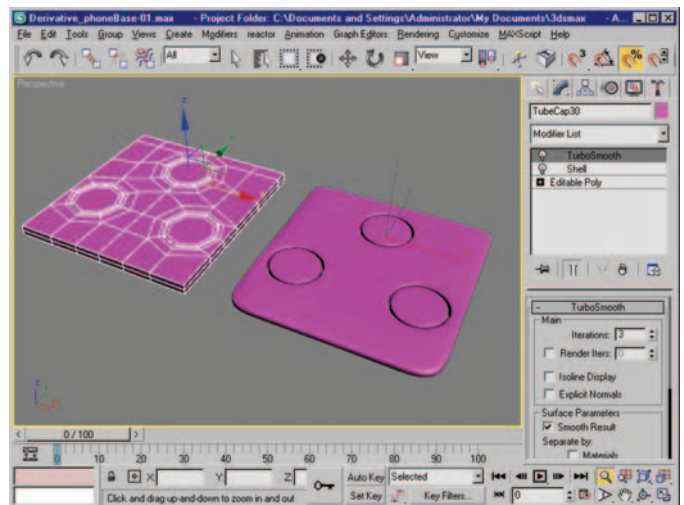

Figure 5.21 Base mesh and smoother result with Shell modifier and TurboSmooth applied.
21. Exit Subobject mode. Add a Shell modifier, with two or more segments (four should be the most you will ever need), and an inner *or* outer amount to give your model thickness. Above the Shell modifier, add a TurboSmooth modifier with two iterations to see your subdivided result (Figure 5.21).